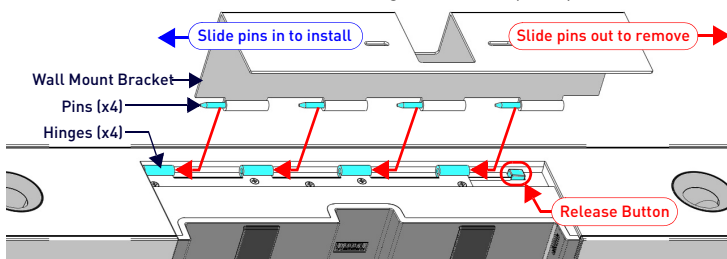

FIG. 3 ACV-5100 BOTTOM VIEW - REMOVING THE BRACKET
- Lift the Wall Mount Bracket off of the hinges to remove (FIG. 3):
- Attach the ACV-5100 to the Bracket by sliding the pins on the Bracket into the hinges on the rear of the main unit (see FIG. 3):
- Carefully slide the pins into the hinges, until the Bracket snaps into place. **Note:** Press the Bracket into place so that the last pin depresses the Release Button, allowing the pins to slide into the hinges (see FIG. 3).